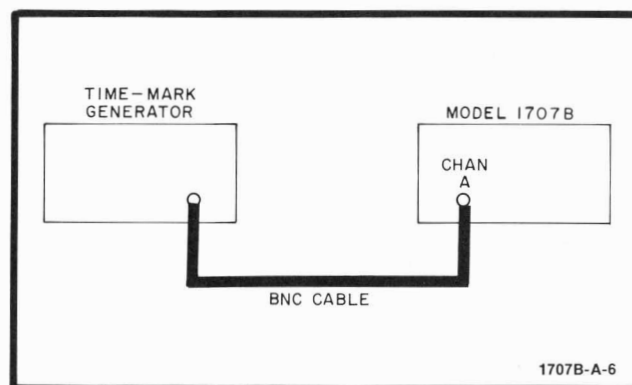

Figure 5-11. Delay Jitter Test Setup
- Connect instruments as shown in figure 5-11.